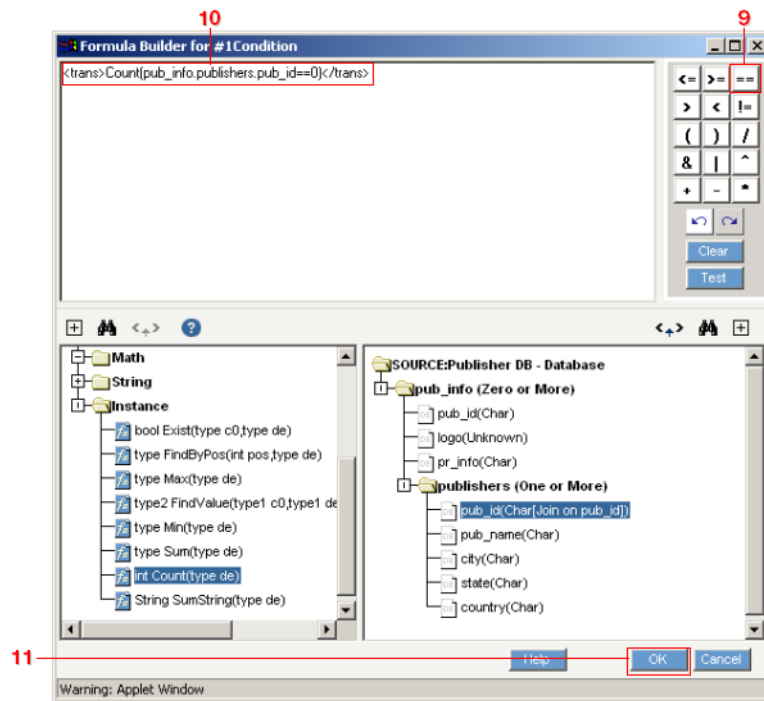

Figure 22-10. Complete your expression by adding an evaluator that compares the count of your target data element to 0.
- 11 Compare your expression to that in Figure 22-10 below, carefully noting the <trans></trans> tags, the **Count()** function, and the evaluation of ==0. Click **OK** when you're finished.